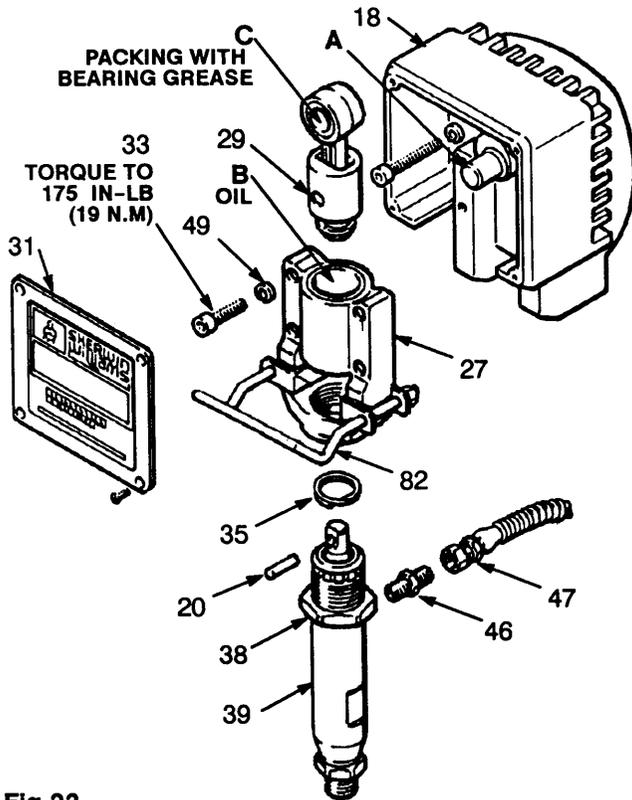

Fig 23
**NOTE:** Stop the sprayer at the bottom of its stroke to get the crank (A) in its lowest position. To lower the crank manually, carefully rotate the blades of the motor fan with a screwdriver.
**NOTE:** Refer to Fig 23 for this procedure.
2. Remove the front cover (31). Remove the bearing housing screws (33).
3. Lightly tap the lower rear of the bearing housing (27) with a plastic mallet to loosen it from the drive housing (18). Pull the bearing housing and the connecting rod assembly (29) straight off the drive housing.
4. Remove the pail bracket assembly (82) and reinstall it on the new bearing housing.
5. Inspect the crank (A). Replace the drive housing if the crank is worn excessively.
6. Evenly lubricate the inside of the bronze bearing (B) with high quality motor oil. Liberally pack the roller bearing (C) with bearing grease.
7. Assemble the connecting rod (29) and bearing housing (27).
9. Align the connecting rod with the crank (A) and carefully align the locating pins in the drive housing with the holes in the bearing housing (27). Push the bearing housing onto the drive housing or tap it into place with a plastic mallet.